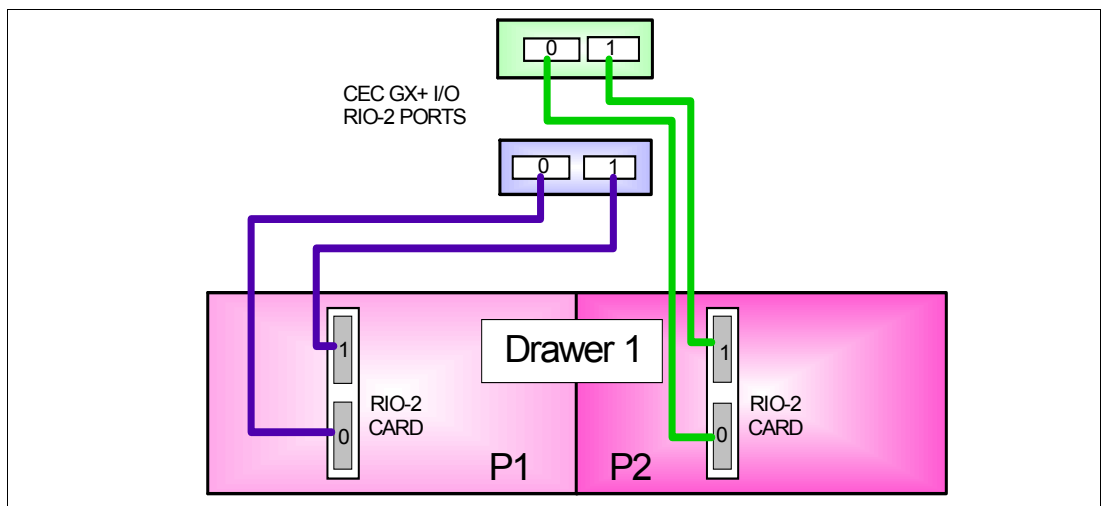

Figure 2-17 Dual loop I/O drawer (FC 5791)
- ▶ Dual-loop (Figure 2-17 on page 36) mode connects each I/O planar in the drawer to the CEC separately. Each I/O planar is connected to the CEC using a separate RIO-2 loop. Dual-loop connection requires two RIO-2 Loop Attachment Adapters (FC 7818) per I/O drawer. With dual-loop configuration, the RIO-2 bandwidth for the I/O drawer is higher.
Although I/O drawers will not be built in half-drawer configurations, they can be cabled to, and addressed by the CEC, in half drawer increments (Figure 2-17).